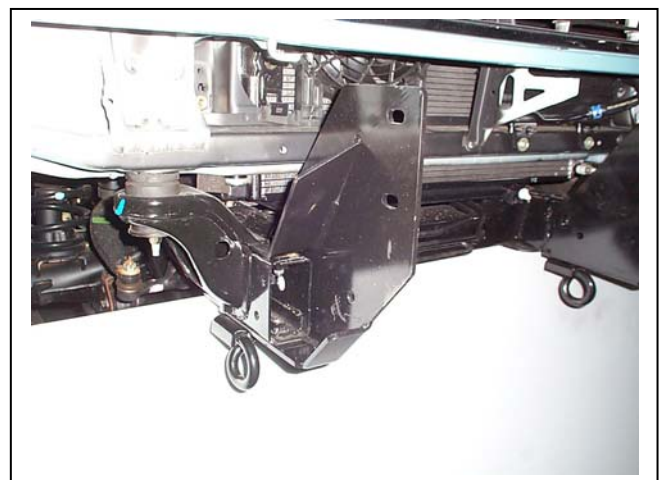

Figure 2 – Drivers side shown
7. Attach steel mounts (supplied) to the inside of chassis. Use M12 x 35 x 1.25 high tensile bolts (supplied) for top holes. Re-attach tow hooks over mounts using original bolts. Use M12x 35 x 1.25 high tensile bolts (supplied) for lower rear holes. Use ½ x 1 ½ bolt, nut and washers for round hole in side of mount. Use original bolts for slot hole in side of mounts. **FINGER TIGHTEN ALL BOLTS ONLY. See figure 2 and 3.**